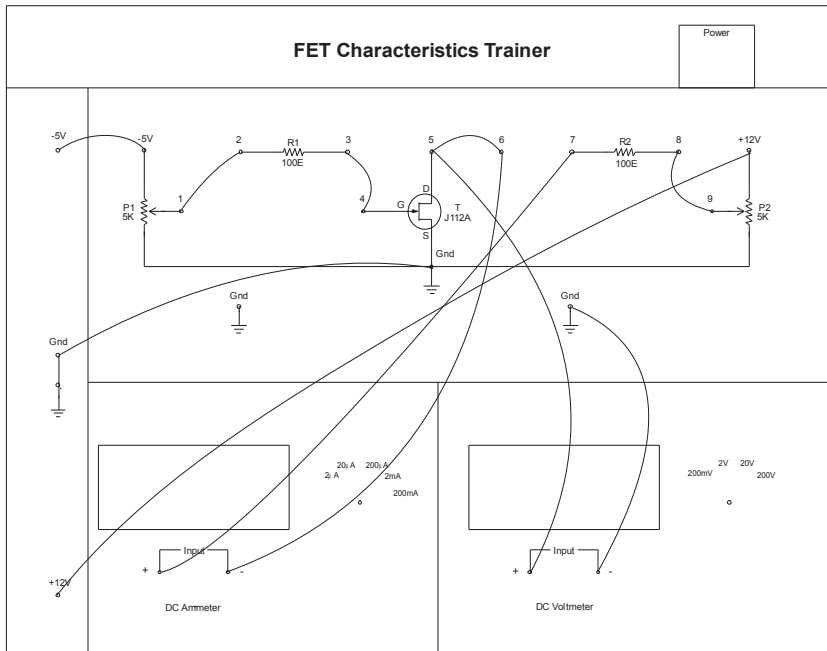

Figure 14
15. Plot a curve between output voltage V_{DS} and output current I_D at different constant values of input gate to source voltage as shown in Figure 14. Using suitable scale with the help of observation table 1. This curve is the required output/drain characteristic.